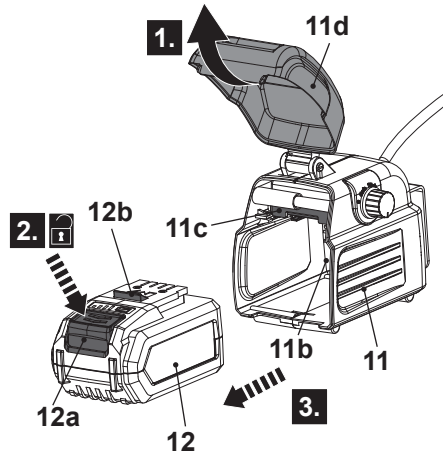

Fig. 9
1. Open the transparent cover (11d) of battery compartment (11) and hold it firmly in position (Fig. 9, step 1).
2. Press down the release button (12a) and disengage the locking latch (12b) from the stopper (11c) (Fig. 9, step 2).
3. Pull out the battery pack (12) from the battery compartment (11) (Fig. 9, step 3).